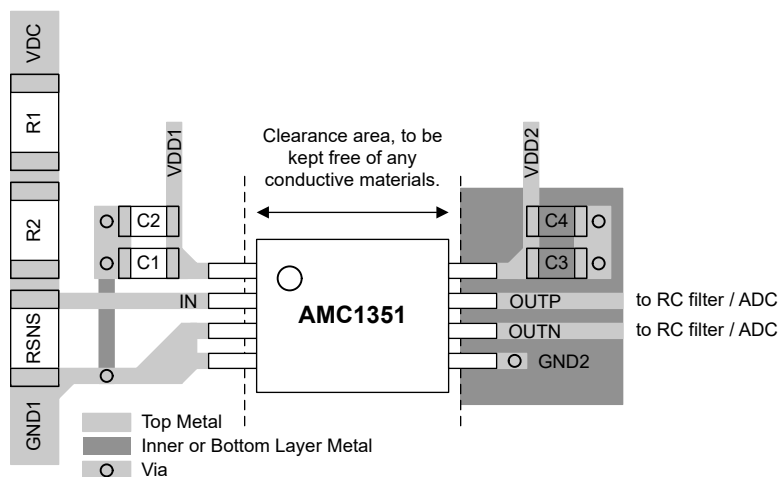

图 10-1. Recommended Layout of the AMC1351
图 10-1 shows a layout recommendation with the critical placement of the decoupling capacitors (as close as possible to the AMC1351 supply pins) and placement of the other components required by the device. For best performance, place the sense resistor close to the device input pin (IN).